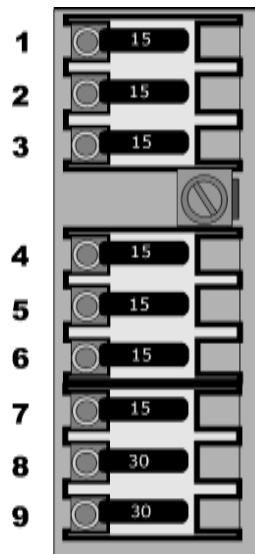

Fig. 4-29
| 9 positions (Fig. 4-29) | 7 | 15 | Main Slideout (1) Lights/Security Lights |